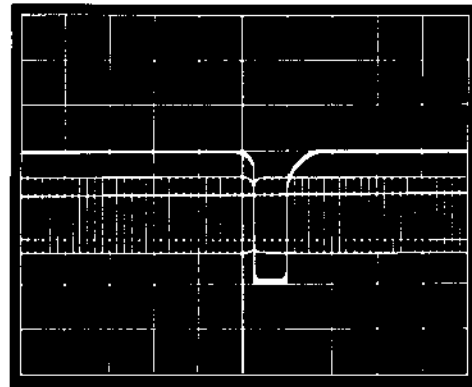
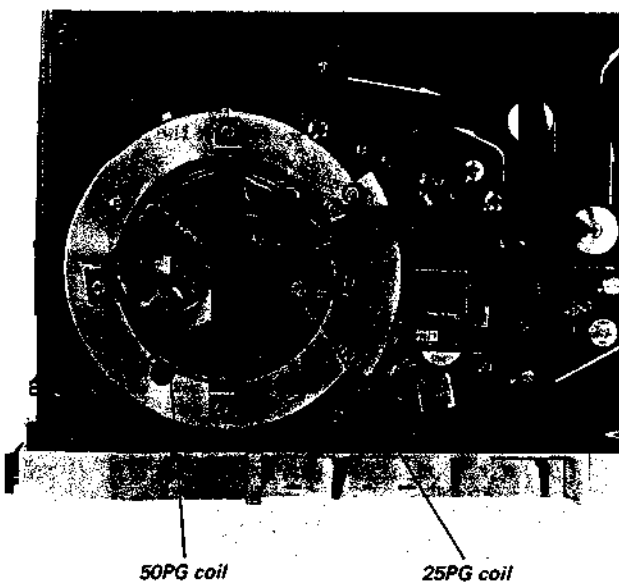

Fig. 4-3.
Fig. 4-2.
6. Bend the tip of the 50 PG coil with pliers and adjust the coil position so that maximum rf output is obtained in the overlap period. See Fig. 4-2 and Fig. 4-3.